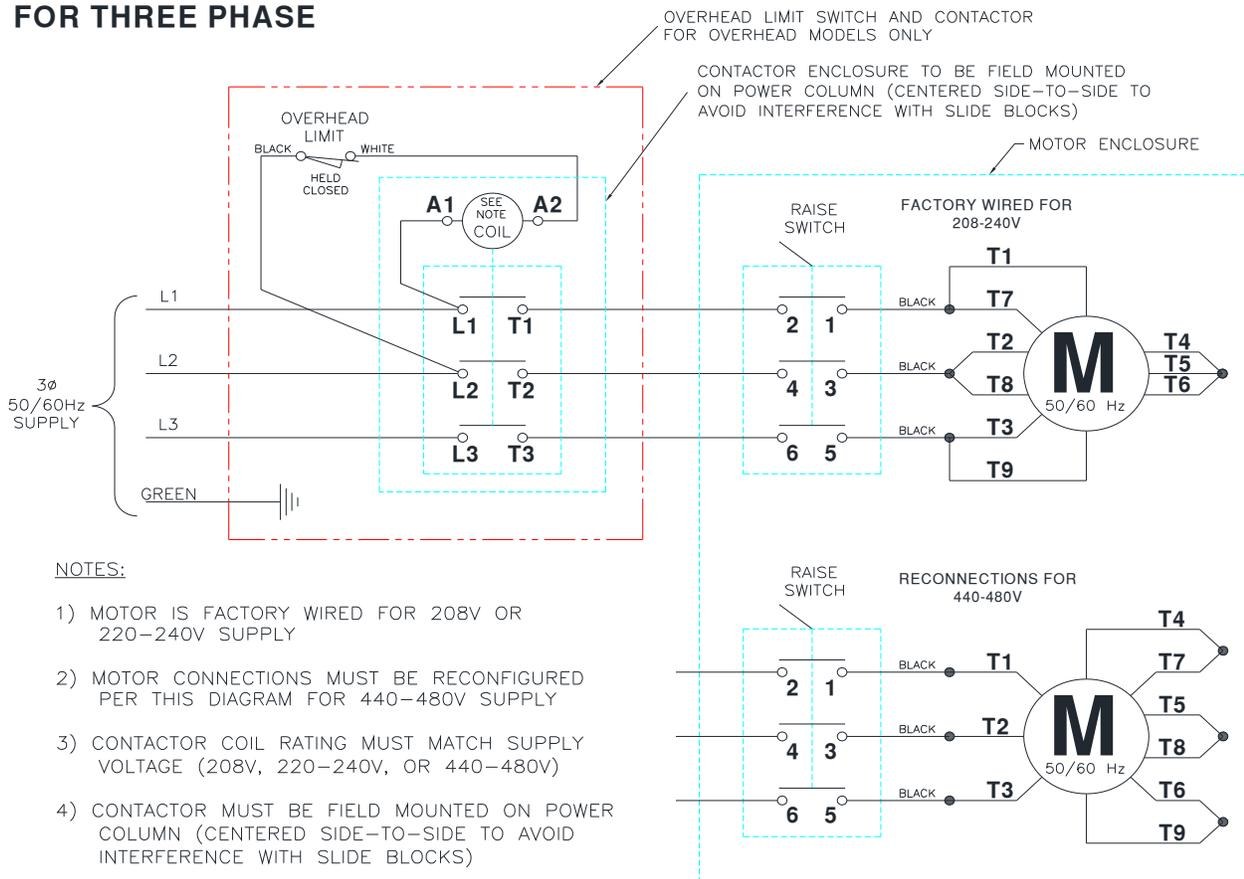

Fig. 13 –Electrical Wiring Diagram
- 36) Refer to **Fig 13 Wiring Diagram** for all steps under this heading.